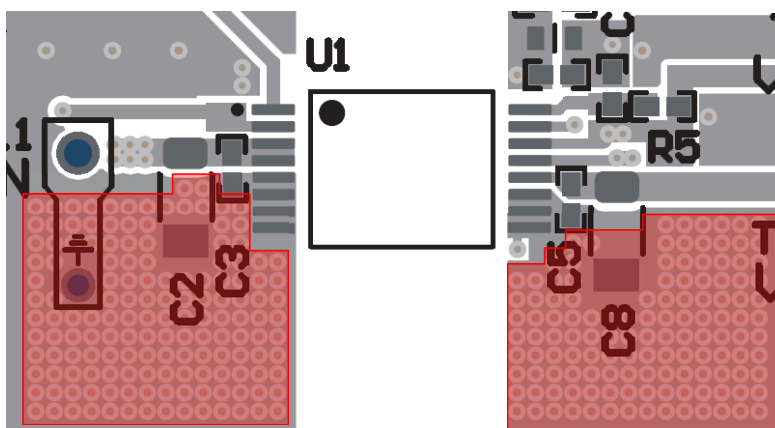

Figure 8-7. Layout Example of Thermal Vias
- f. A layout example is shown in Figure 8-7.